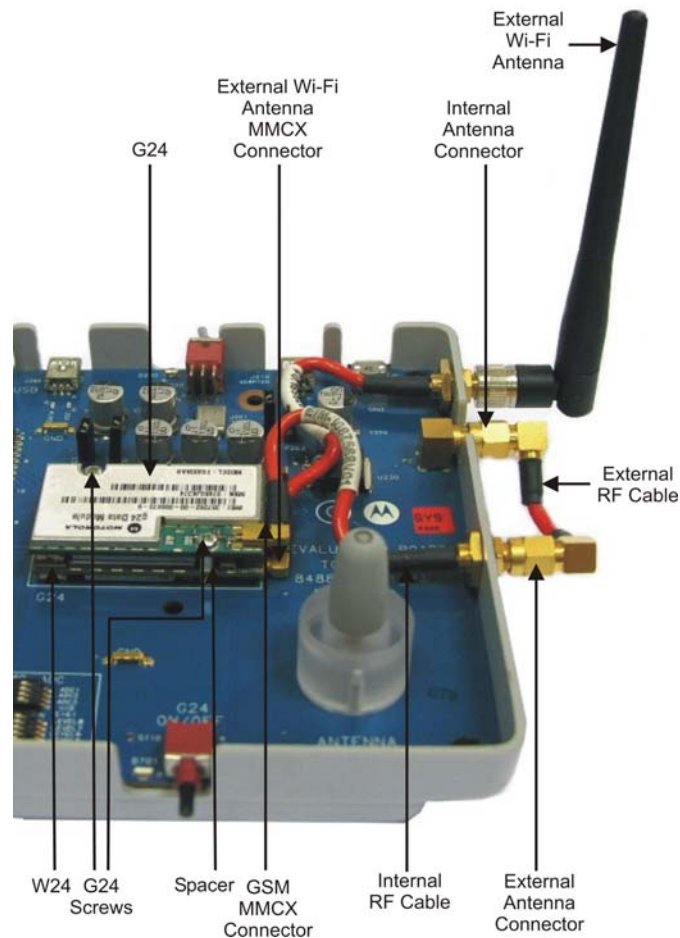

Figure 2-3: Connecting the W24 + G24 (Stacked configuration)
3. Place the G24 (Figure 2-3) on top of the W24.
6. Connect the external RF cable between the External Antenna Connector and the Internal Antenna Connector (Figure 2-3).
7. Connect the internal GSM RF cable MMCX connector to the MMCX connector of the G24 by pushing it in until it clicks (Figure 2-3).
- Screw the supplied antenna into the antenna connector, located at the side of the Developer's Kit (Figure 2-3, on page 9).